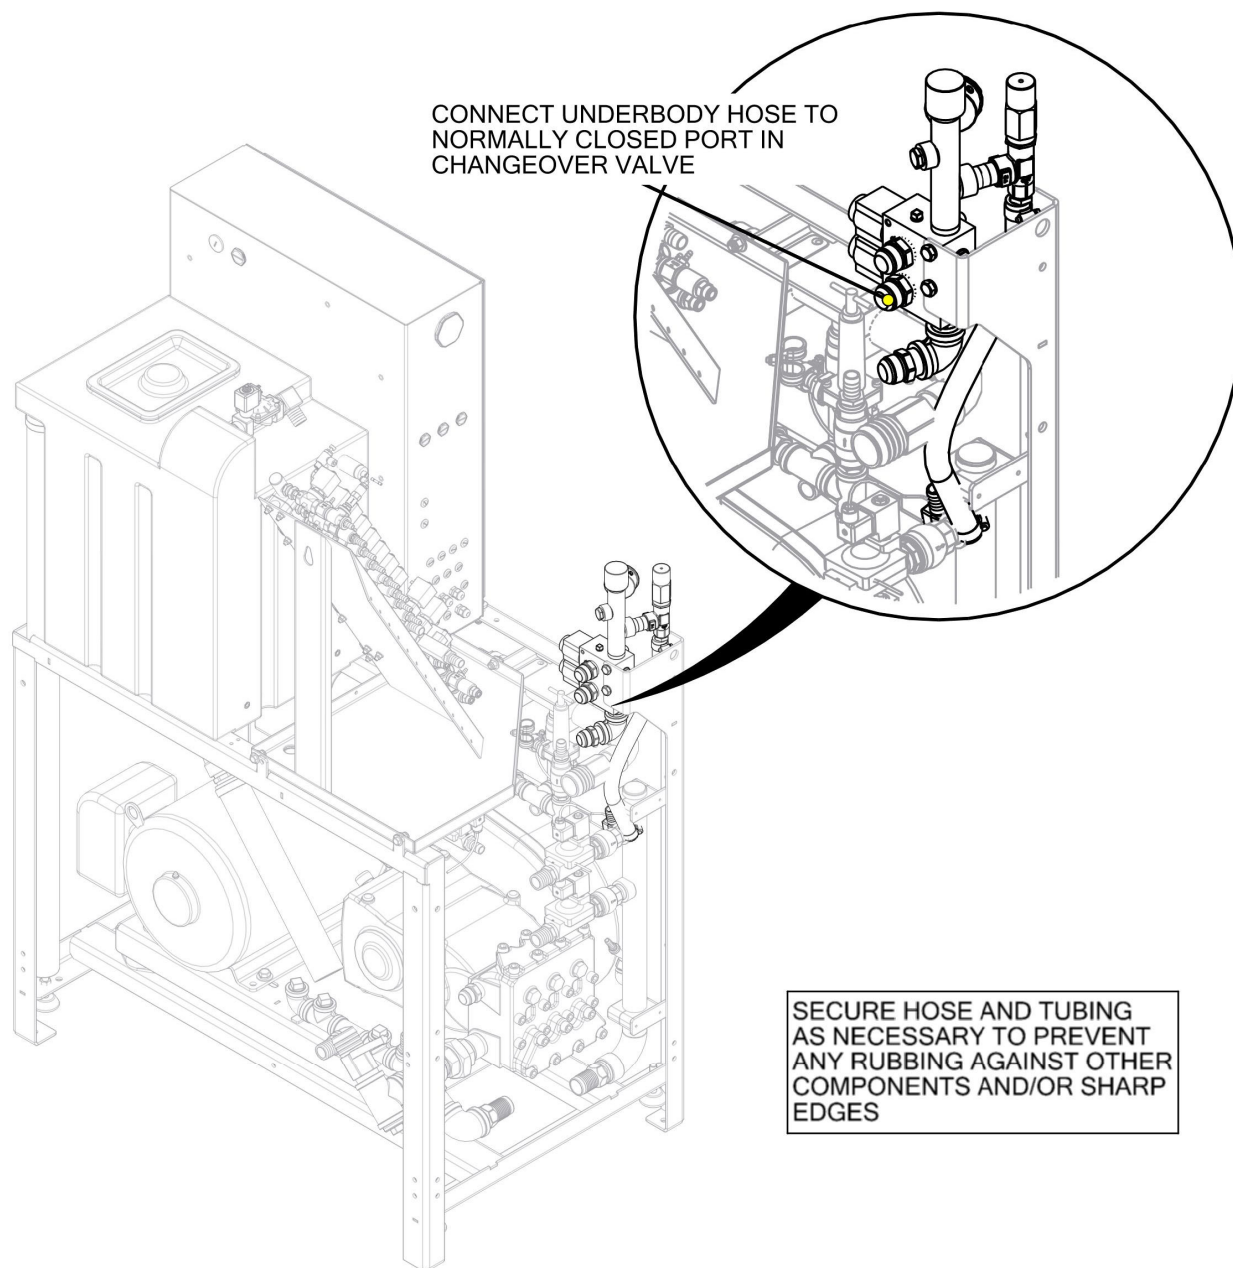

Figure 116 – High-Pressure Underbody Hose Connection to Changeover Valve in High-pressure Pump Station
- Connect the site supplied hose between the normally closed outlet on the changeover valve on the pump station, Figure 116, and the inlet on the underbody manifold.